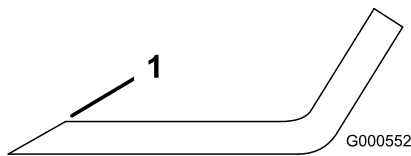

Figure 62
- Use a file to sharpen the cutting edge at both ends of the blade (Figure 62).
Note: If the blade is not balanced, file some metal off the end of the sail area only (Figure 62).